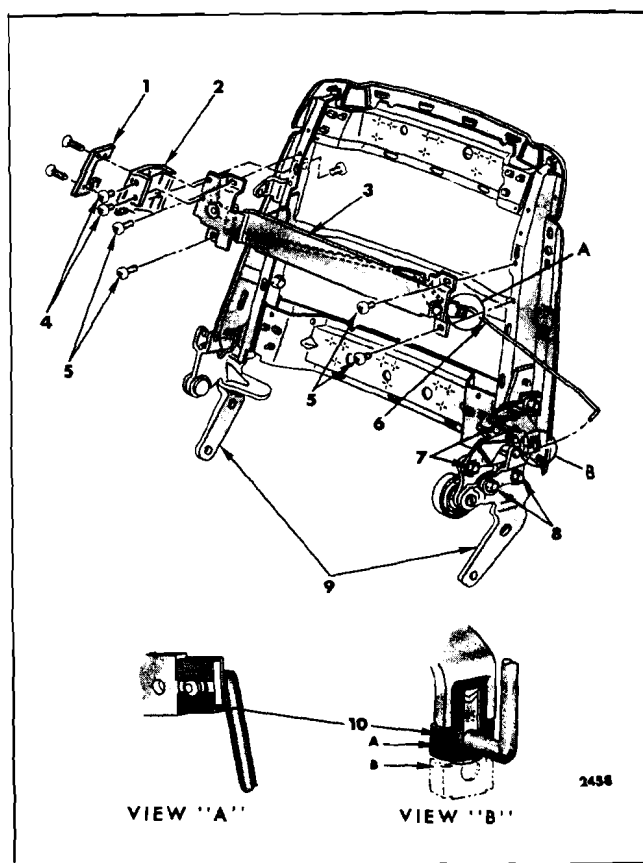

Fig. 15-57—Strato Reclining Seat Back Lock
2. At seat back inner hinge assembly remove hog rings and detach seat back trim sufficiently to gain access to seat back lock and lock striker attaching bolts (Fig. 15-57).
3. Remove seat back lock striker attaching bolts (Fig. 15-57) and remove striker.
4. Disengage clip securing lock rod to lock as shown in View "B", Fig. 15-57 and detach rod from lock.
5. Remove lock-to-hinge attaching bolts (Fig. 15-57) and remove lock assembly from seat back hinge.
2. At right side of seat back remove hog rings and detach seat back trim sufficiently to gain access to seat back lock control support (Fig. 15-57).
3. Remove control support attaching screws (Fig. 15-57) and remove support.
3. Disengage clip securing lock rod to control assembly (View "A", Fig. 15-57) and detach rod from control assembly.
4. Remove control support and control assembly attaching screws (Fig. 15-57); then, remove control assembly from seat back.